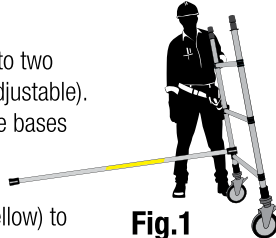

Fig.1
2. Attach at least one horizontal brace (yellow) to the frame upright just above the first rung with the snap hook facing outwards. The frame is now self-supporting-See Fig.1